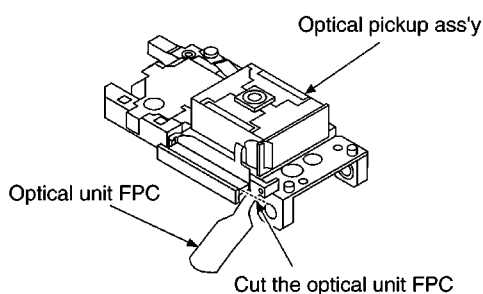

Fig. 2
2. Cut the optical unit FPC at the point shown below. (As shown in Fig. 2 .)